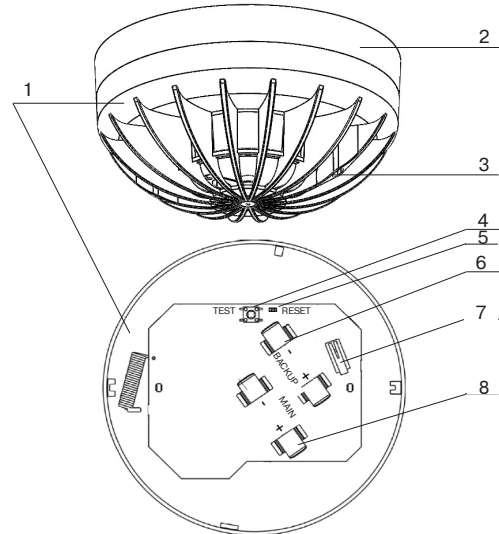

Figure 1
The Detector outside view is shown in Figure 1.
12.1 Choose the Detector location, where the quality of communication is appraised «excellent» or «good» and carry out marking for it's mounting. Use the base for marking. (See Figure 1).